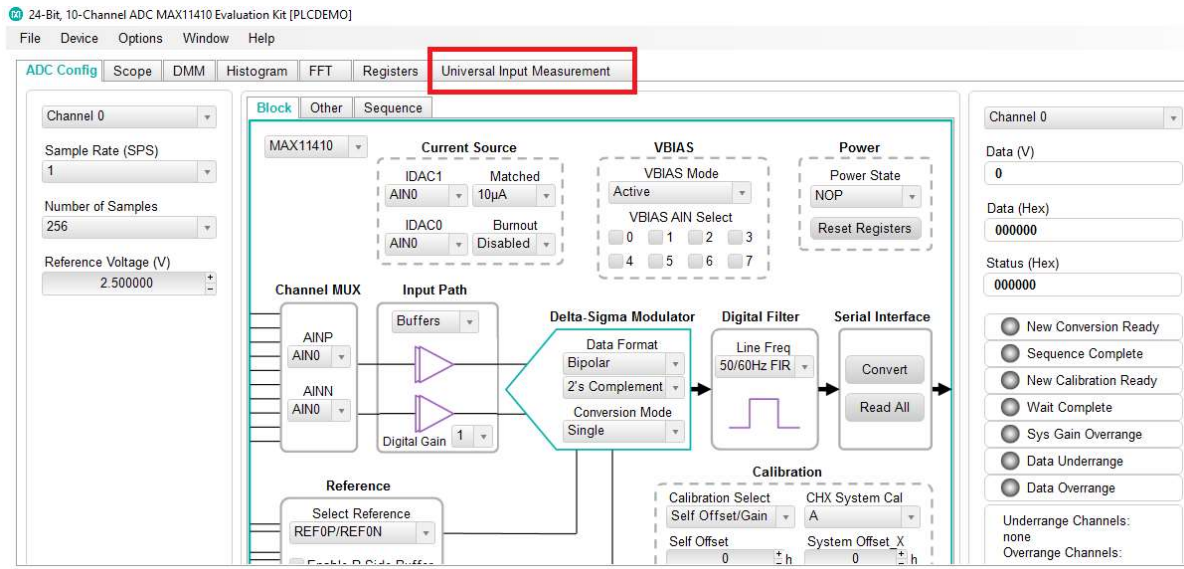
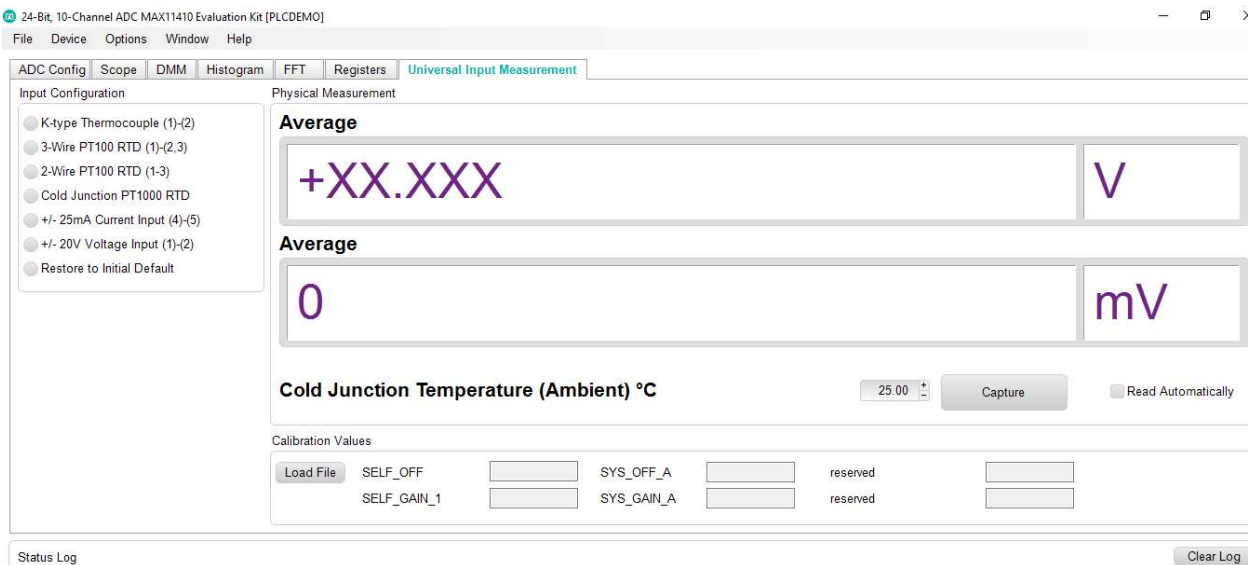

Figure 3
Figure 4
8. Please click the “**Universal Input Measurement**” Tab for this demo as shown in the above figure 3. The screen will be as shown below figure 4.